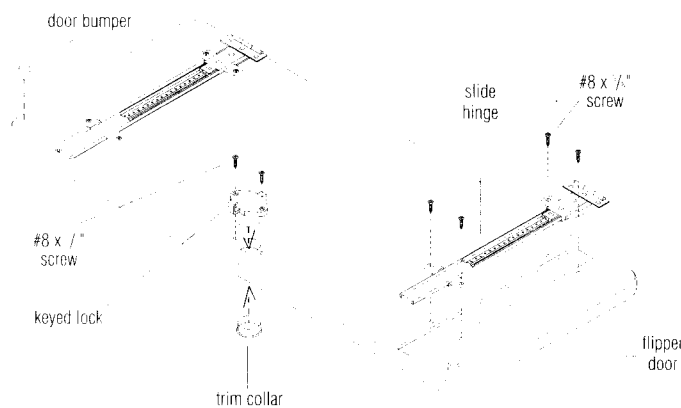

Figure 5
14. Lay flipper door, with the back side up, on a soft protective surface. Attach two slide hinges to the flipper door with four #8 x 3/8" screws per hinge. Peel adhesive backing from door bumpers and attach two bumpers to the back of the flipper door at corners shown (Figure 5).
15. Orient keyed lock as shown and insert into socket from backside of flipper door. Holding the flipper door up and the keyed lock in place, press the trim collar into the socket. Fasten the keyed lock to the flipper door back with two #8 x $\frac{1}{2}$ " screws (Figure 5).